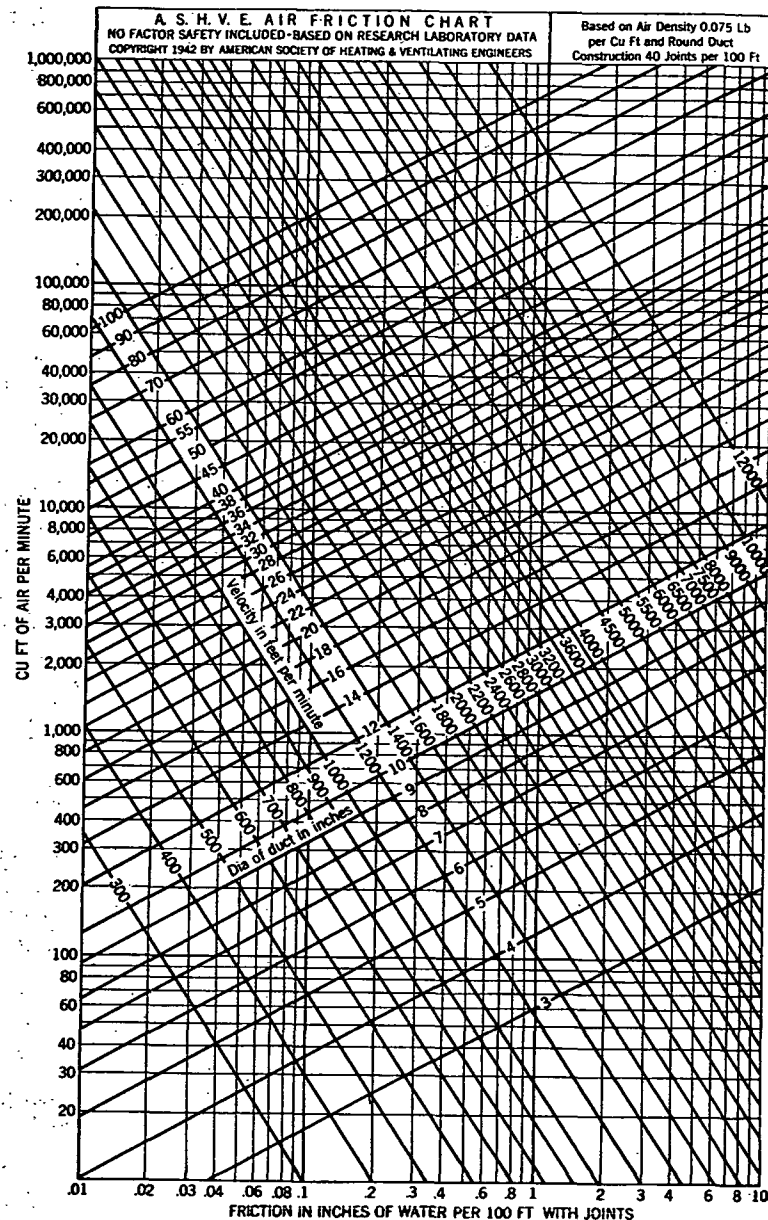

FIG. 2. FRICTION OF AIR IN PIPES
**Example 1.** Assume that it is desired to circulate 10,000 cfm of air through 75 ft of 24 in. diameter pipe. Find 10,000 cfm on the left scale of Fig. 2 and move horizontally right to the diagonal line marked 24 in. The other intersecting diagonal shows that the velocity in the pipe is 3200 fpm. Directly below the intersection it is found that the friction per 100 ft is 0.41 in.; then for 75 ft the friction will be  $0.75 \times 0.41 = 0.31$  in. In a like manner any two variables may be determined by the intersection of the lines representing the other two variables.